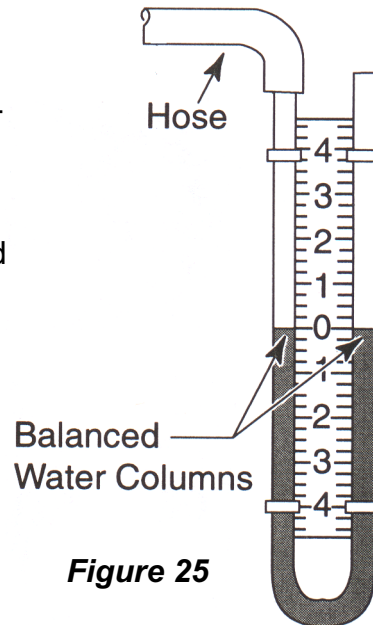

Figure 25
3. Prepare the manometer by filling the U-shaped tube with water so that both sides of the tube fill to the **zero** point (see Figure 25). NOTE: Use a little food coloring in the water to help make reading the meter easier.